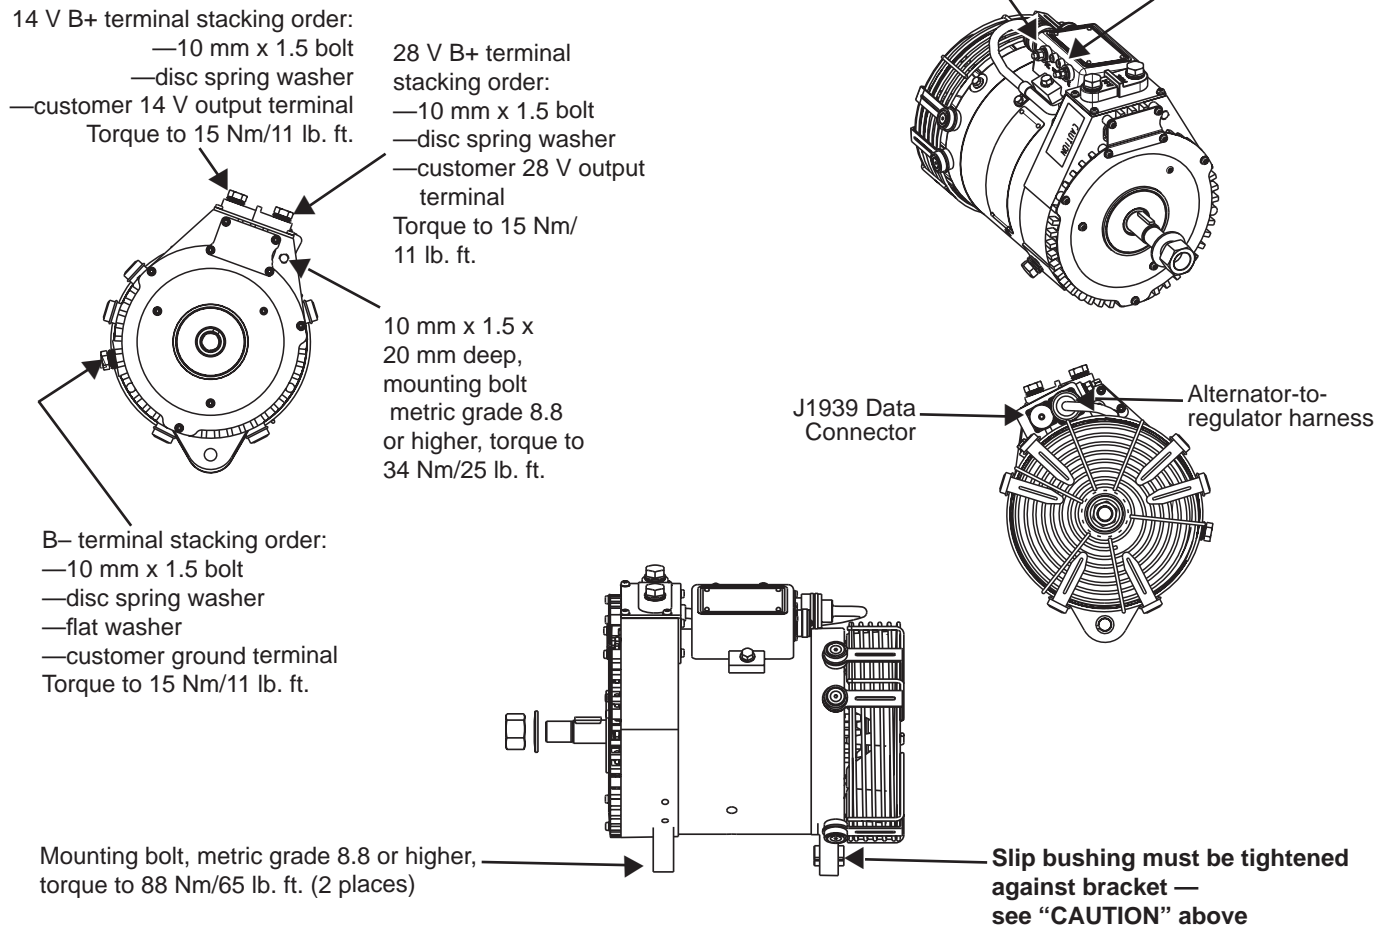

Figure 1 - N1224/N1224-1/N1224-2/N1224-3 Alternator Installation Details
Install alternator as shown in Figure 1:
- Use hardened washers between aluminum surfaces and mounting bolt heads and nuts. Torque mounting bolts as shown in Figure 1.